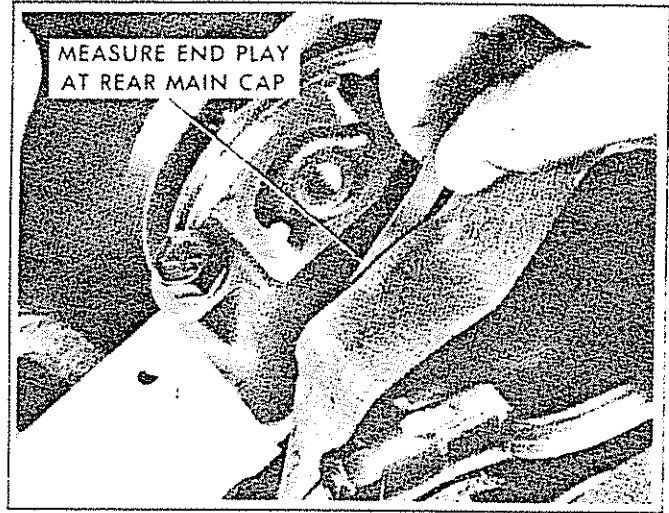

Fig. 6A2-40--Measuring Crankshaft End Play - Typical (V6 Shown)
9. Measure crankshaft end play (see specifications) by forcing the crankshaft to the extreme front position. Measure at the front end of the rear main bearing with a feeler gage (Fig. 6A2-40).